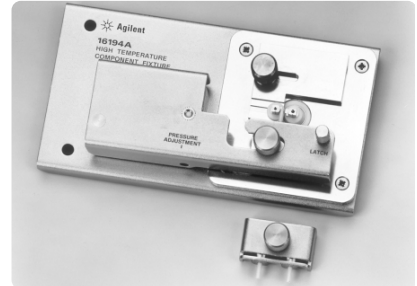

Figure 16. 16194A
- Accommodated SMD size: See Figure 16.